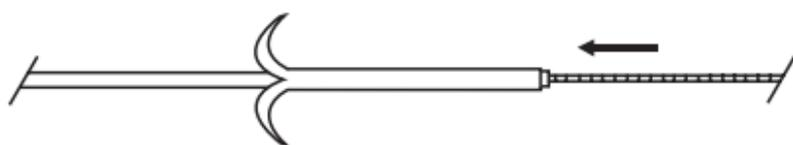

Fig. 2
- b) With catheter tip straight, advance the catheter over the wire guide. (Fig. 2)